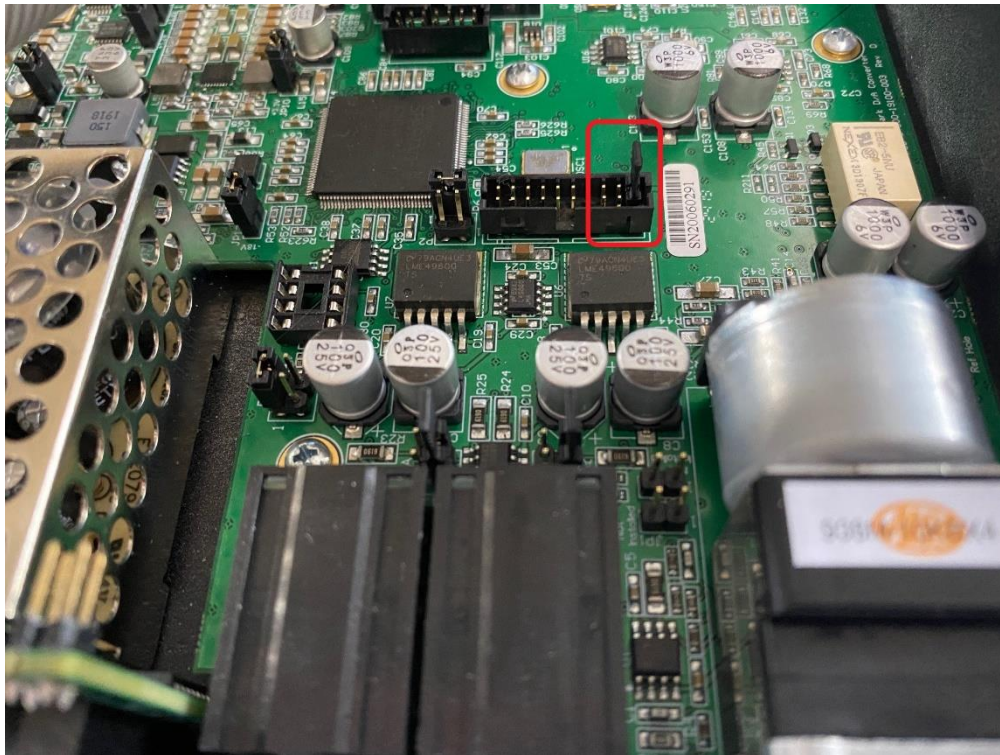

Figure 4 – Extra Jumper position.
8. Confirm the position of the jumper shown in Figure 4. An extra jumper is included for older units which do not have this jumper. The jumper should be on the rightmost set of pins.